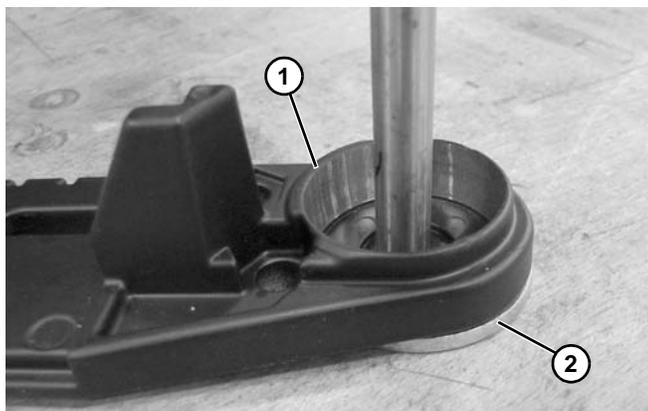

Figure 89
2. Set tail plate (**Figure 89, item 1**) flat side down over washer (**Figure 89, item 2**) or hole in workbench that has a minimum diameter or 5/8".